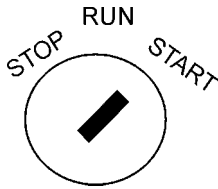

Figure 21. Ignition Switch (START)
5. Before starting the generator, press the preheat button (during cold conditions). Turn the key to the right to 'Start' (Figure 21). Once the engine starts, release the key.